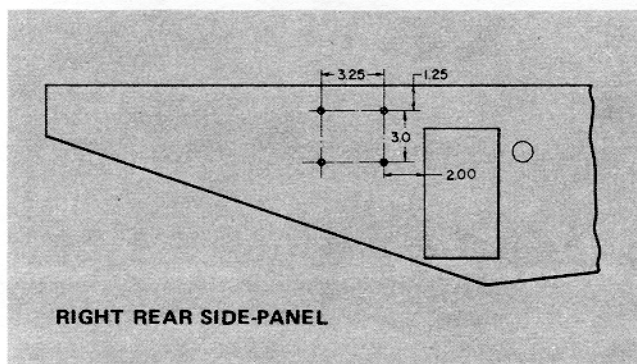

Figure 1
3. Drill four, 11/32 inch holes through right rear side-panel. Correct location of the holes is essential (Fig. 1).